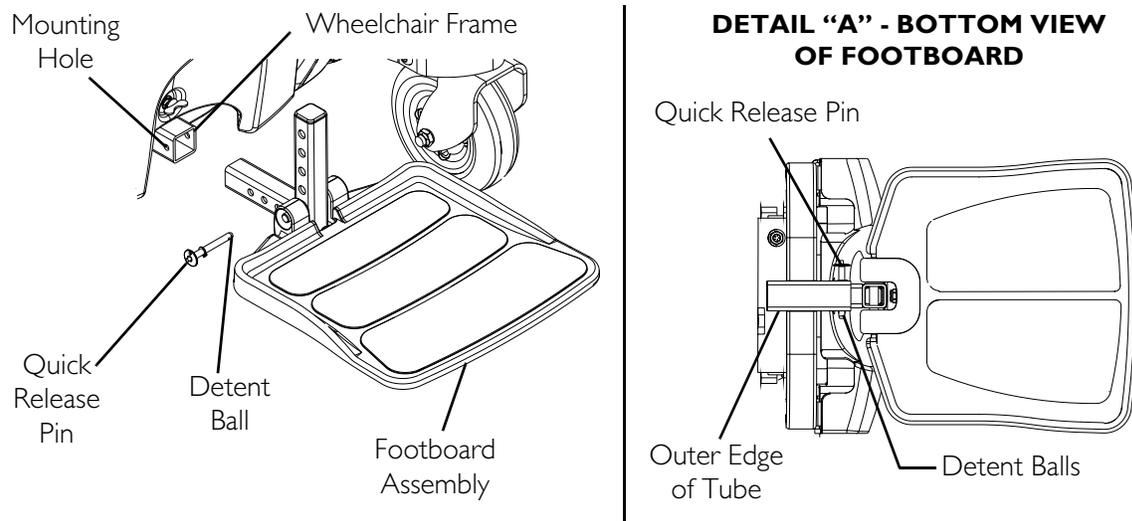

FIGURE 8.1 Removing/Installing the Footboard Assembly
NOTE: For this procedure, refer to FIGURE 8.1.
2. Install the quick release pin by depressing the button while sliding the pin in. Ensure that the detent balls of the quick release pin are fully released and protruding past the outer edge of the tube (Detail "A" of FIGURE 8.1).